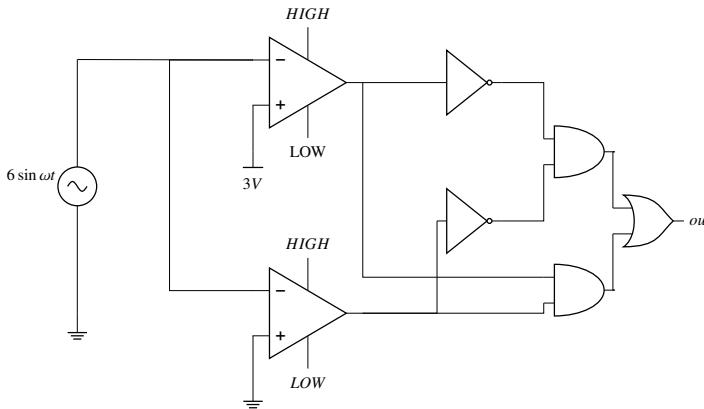

Fig. 3.26: Circuit Diagram
43. In the circuit shown below in Fig. 3.26, assume that the comparators are ideal and all components have zero propagation delay. In one period of the input signal $V_{in} = 6 \sin(\omega t)$, the fraction of the time for which the output OUT is in logic HIGH is (GATE-IN2019,34)